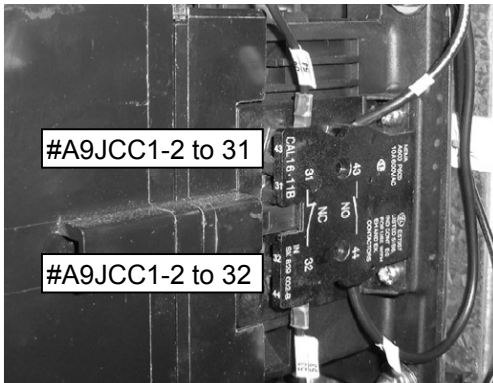

Figure 28: Right side of Motor Contactor
- Using a flat screwdriver, 3mmx100mm (1/8"x4"), torque the following auxiliary terminals to 2.0 N-m (17.5 in-lbs) on the right side of the motor contactor. See Figure 28 for location of auxiliaries.